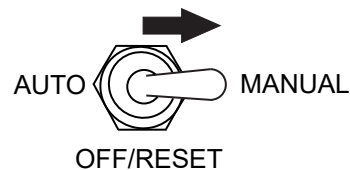

Figure 100. Auto Start/Stop Switch (Manual Position)
- Place the Auto Start/Stop switch (Figure 100) in the "Manual" position to start the engine.